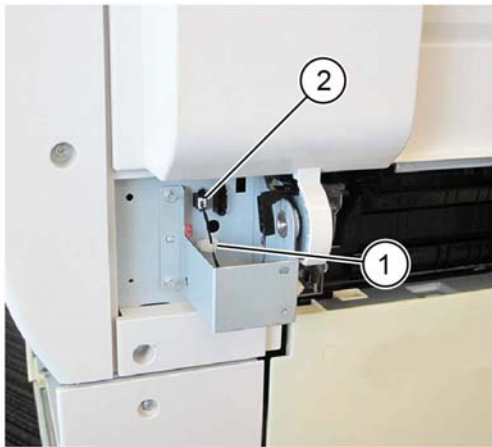

Figure 3 Connector
4. Disconnect the connector, Figure 3:
- a. Release the harness from the retainer (1).
- b. Disconnect the connector (2).